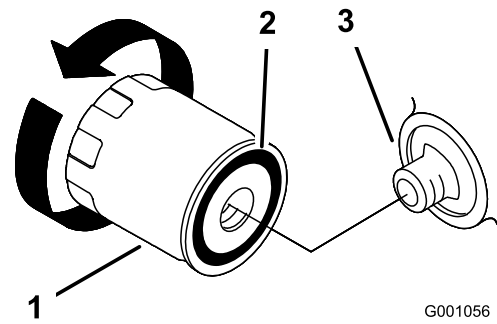

Figure 42
2. Remove the old filter and wipe the filler adapter gasket surface (Figure 42).
5. Apply a thin coat of new oil to the rubber gasket on the replacement filter (Figure 42).
6. Install the replacement oil filter to the filter adapter, turn the oil filter clockwise until the rubber gasket contacts the filter adapter, then tighten the filter an additional 2/3 to 1 turn (Figure 42).